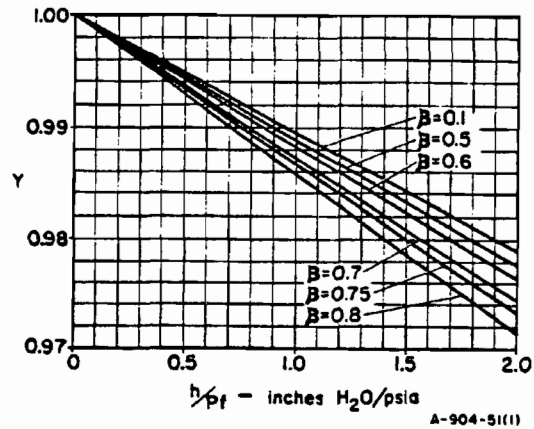

Figure 3-2. Correction Factor (Y)
- Y = correction factor, Figure 3-2